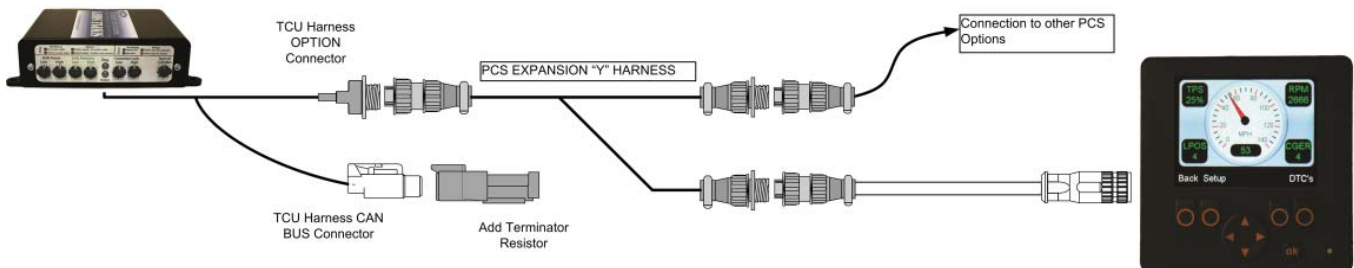

Figure 2
1. To connect the Simple Shift Tuner in the case that other devices are used on the CAN BUS, obtain a BUS “Y” connector add-on. In this configuration the Tuner may be left in circuit indefinitely (Figure 2).